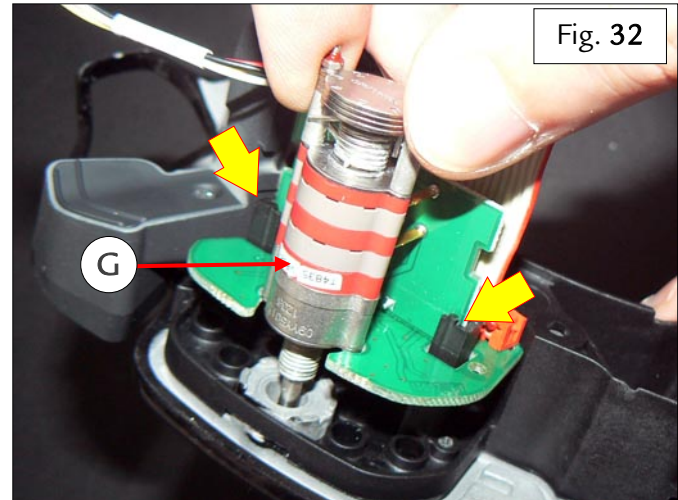

Fig. 32
- Fit the Manettino rotary selector (G) on the main base, aligning the fitment in the board as shown aside- Fig. 32.